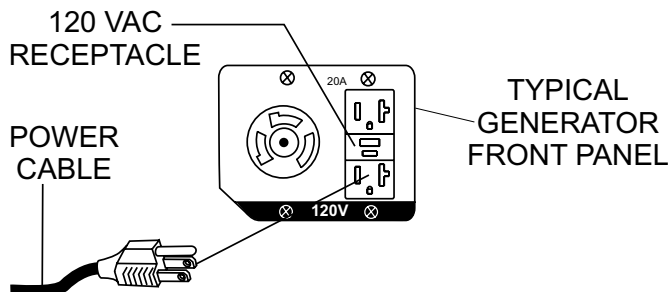

Figure 23. Connecting to Power Source
1. Connect the AC power cable to the 120 VAC receptacle on the generator used. See Figure 23.